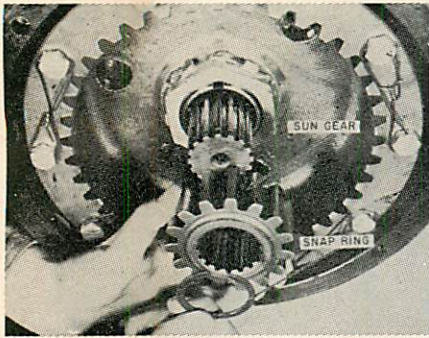
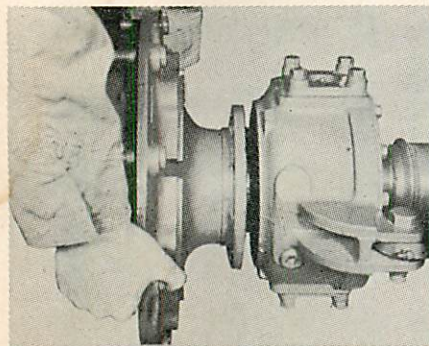

Fig. O16 — Sun gear can be removed from outer end of axle shaft after snap ring is removed. Note method of safety wiring the internal gear capscrews.
Fig. O17 — Removing wheel hub assembly from spindle support.
**32. HUB ASSEMBLY.** To overhaul the wheel hub assembly, first remove planet spider assembly as outlined in paragraph 30. With planet spider removed, remove snap ring and sun gear from outer end of axle shaft. See Fig. O16. If necessary, the internal gear can be removed at this time by clipping the lock wires and removing retaining capscrews. Straighten tabs of spindle nut lockwasher, then use OTC tool JD-4 or equivalent and remove spindle outer nut and lockwasher. Now loosen but **do not** remove the spindle inner nut. Unbolt spindle from spindle support and remove wheel hub assembly as shown in Fig. O17.